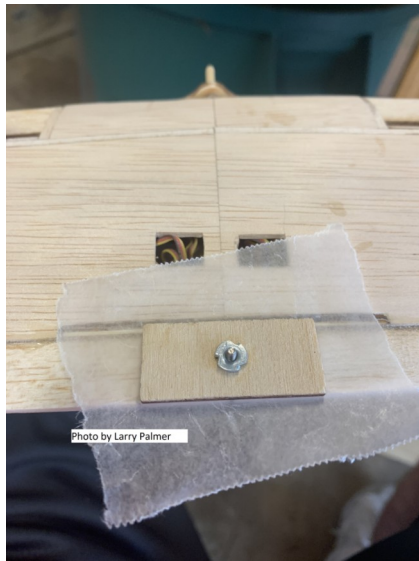

Figure 13, and 14
- d) Remove the wing and position the mounting plate and drill a hole for the mounting screw insuring that it is located in the proper location. Figure 13.